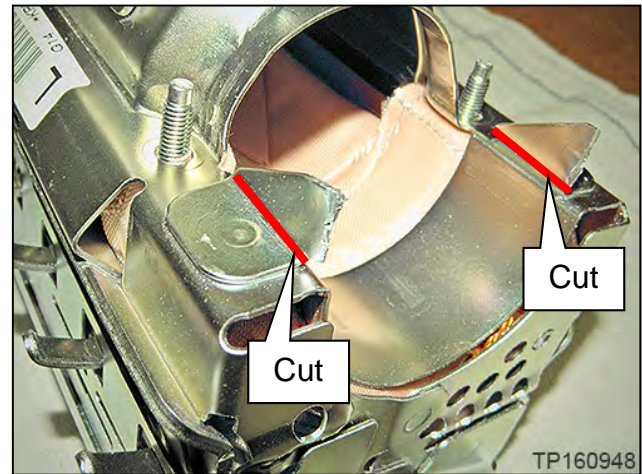

Figure 31
- b. Cut the left and right horizontal attachments, where shown in Figure 31.